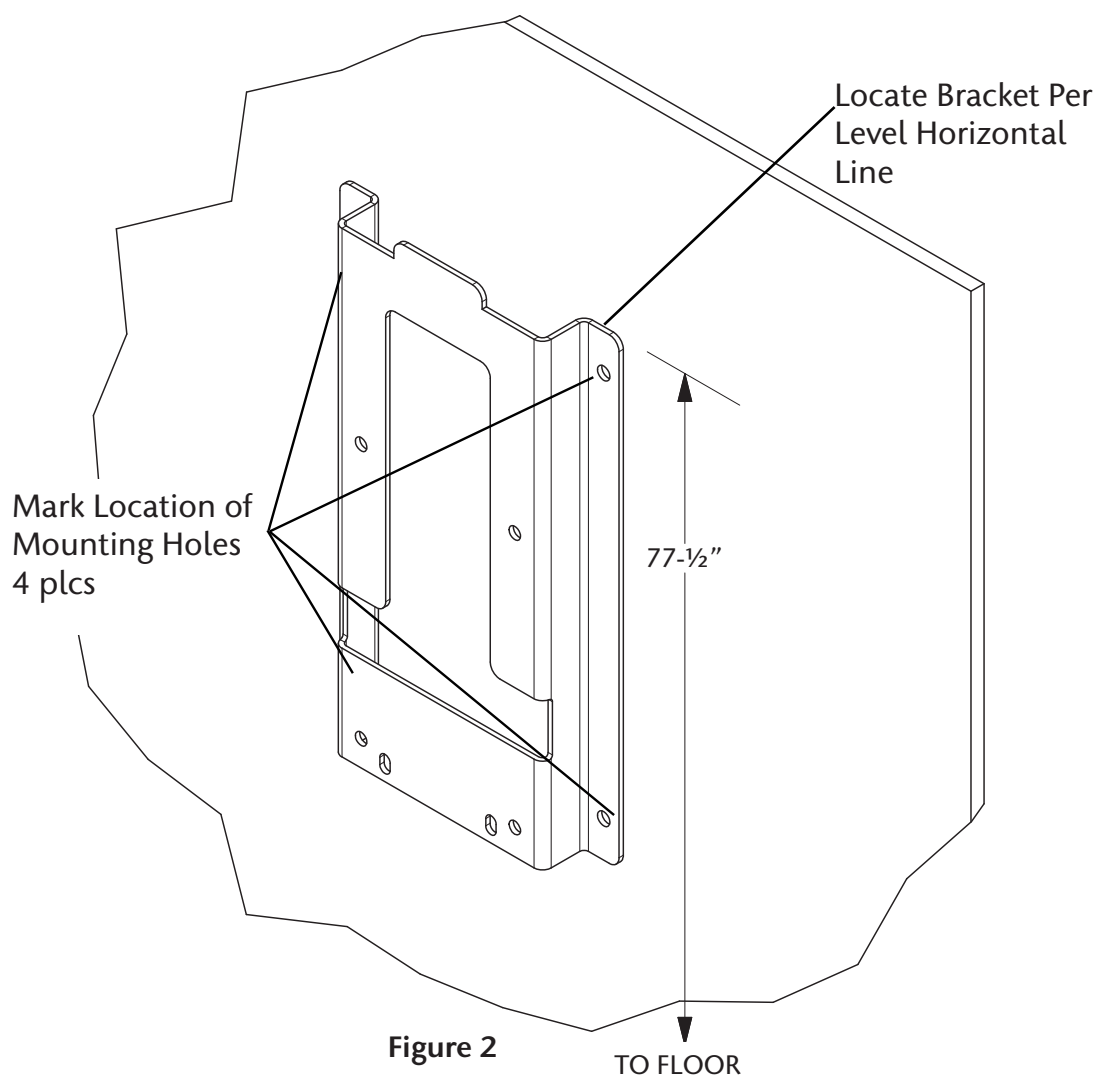

Figure 2
5. Place bracket flat against wall as shown in Figure 2 and align top of bracket with level horizontal line. Vertical center line of bracket will be vertical center line of installed manifold. Mounting top of bracket at $77\frac{1}{2}$ " height will net a $65\frac{3}{4}$ " height from center of header to finished floor.